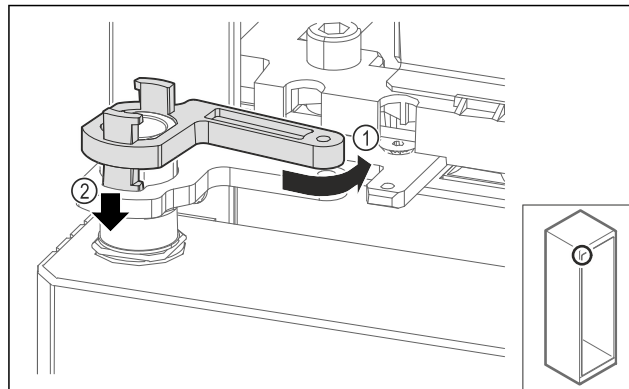

Fig. 66
- Turn the swap bearing block lock back slightly Fig. 66 (1), press it down Fig. 66 (2) and lock it at the hinge bracket.